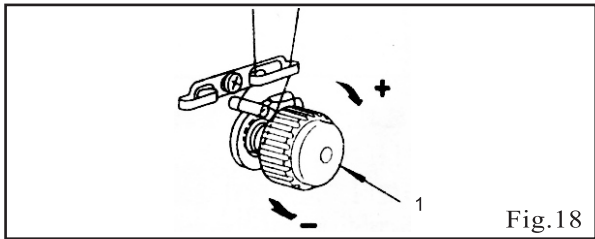

Fig.18
14. REGULATE THE LENGTH AND TENSION OF TAKE-UP SPRING (Fig.18)